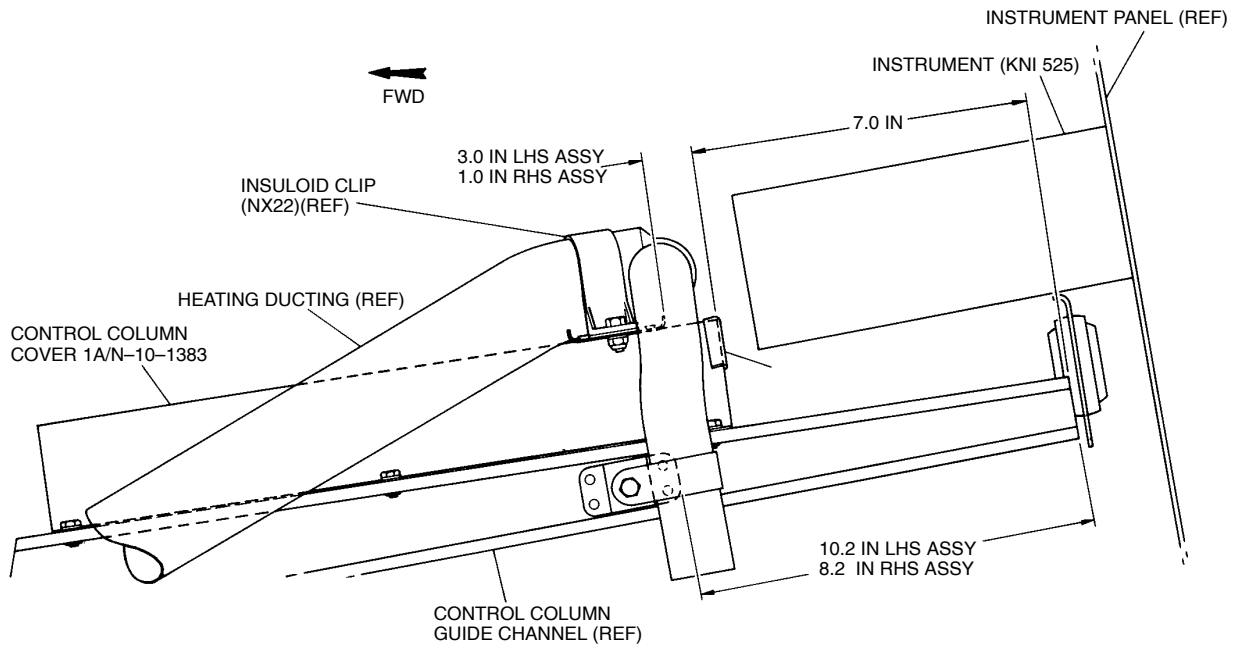

Figure 1 View Looking Inboard LH Control Column
- (1) Position control column covers PN 1A/N-10-1383 over the LH and RH control column assemblies guide channels with the rear edge 7.0 inches from the end of the guide channel (Ref Figure 1).
- (2) Drill six 5.00mm dia holes into the control column guide channels using the cover plates as templates. Remove the cover plates and deburr the guide channels.
- (3) Position the two clip mounts PN 1C/N-10-1383 in the guide channels. The rear edge of the clip mounts on the LH control column guide channels should be positioned 10.2 in from the rear end of the guide channels (Ref Figure 1).
- (4) Drill four holes 2.45mm dia through each of the clip mounts and guide channels. Remove the clip mounts and deburr the clip mounts and guide channels. Countersink the 2.45mm dia holes on the inboard face of the outboard guide channels and on the outboard face of the inboard channels using a 100° countersinking tool to a depth of $0.036 \frac{+.003}{-.001} in$
- (5) Repeat Para 2.C.(3) and (4) on the RH control column guide channels with the exception that the rear edge of the clip mounts should be positioned 8.2 in from the rear end of the guide channels (Ref Figure 1).